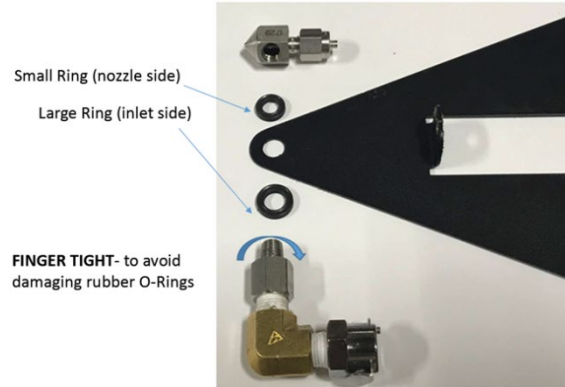

Figure 17: Triangle
3. Assemble triangle. (See Figure 17)